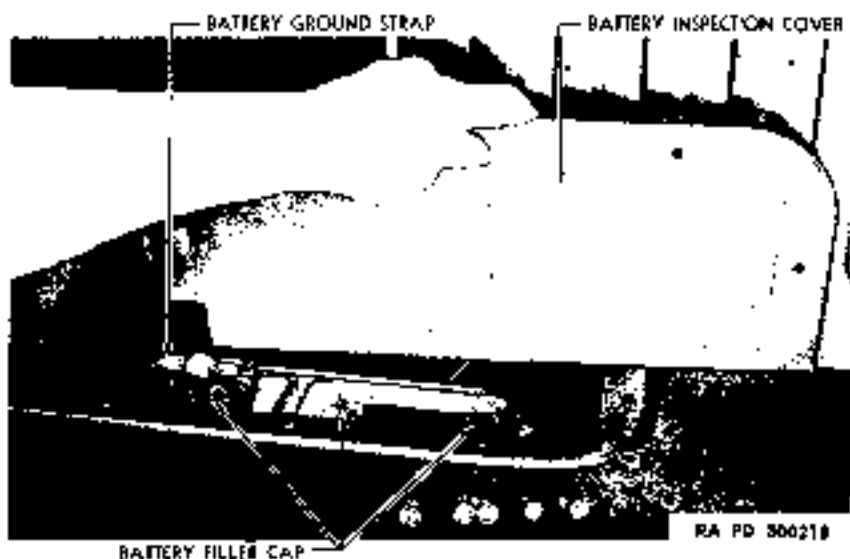
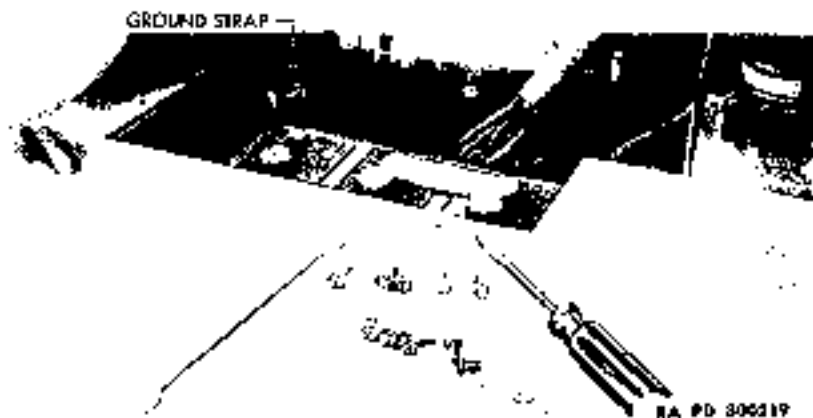

Figure 132—Removing Battery Inspection Cover
Figure 133—Battery Ready for Removal
c. **Battery Removal.** Remove five retaining screws and lock washers from engine side panel and lift off battery. Remove the five retaining screws and lock washers from the battery cover, and lift off cover (fig. 132). Loosen the grounded (positive) terminal and lift it off terminal post. As removal of the grounded lead prevents the possibility of destructive arcs if metal tools accidentally short circuit a negative terminal to the compartment or frame, first loosen two clamp bar nuts on inner side of battery box, and lift battery out (fig. 133).
c. **Cable Removal.** Always first loosen and remove cable from grounded terminal, regardless of what cables are to be removed (fig. 133), then proceed with the removal of desired cable. Loosen battery end terminal and lift off. Unscrew the terminal nuts on other end and remove cable. Remove switch to cranking motor cable by unscrewing terminal nuts and removing cable.